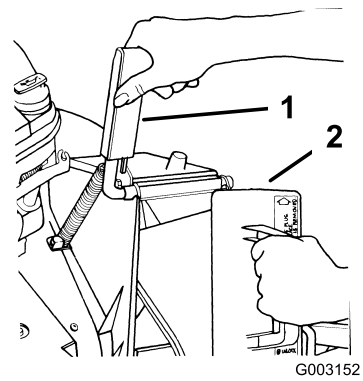

Figure 6
2. Since the plug is slightly wider than the discharge tunnel opening, rotate the plug clockwise slightly while inserting it (Figure 6).
1. Open the discharge door by pulling forward on the handle and moving it rearward (Figure 6). Hold the discharge door handle to prevent the spring-loaded door from closing while you insert the plug.